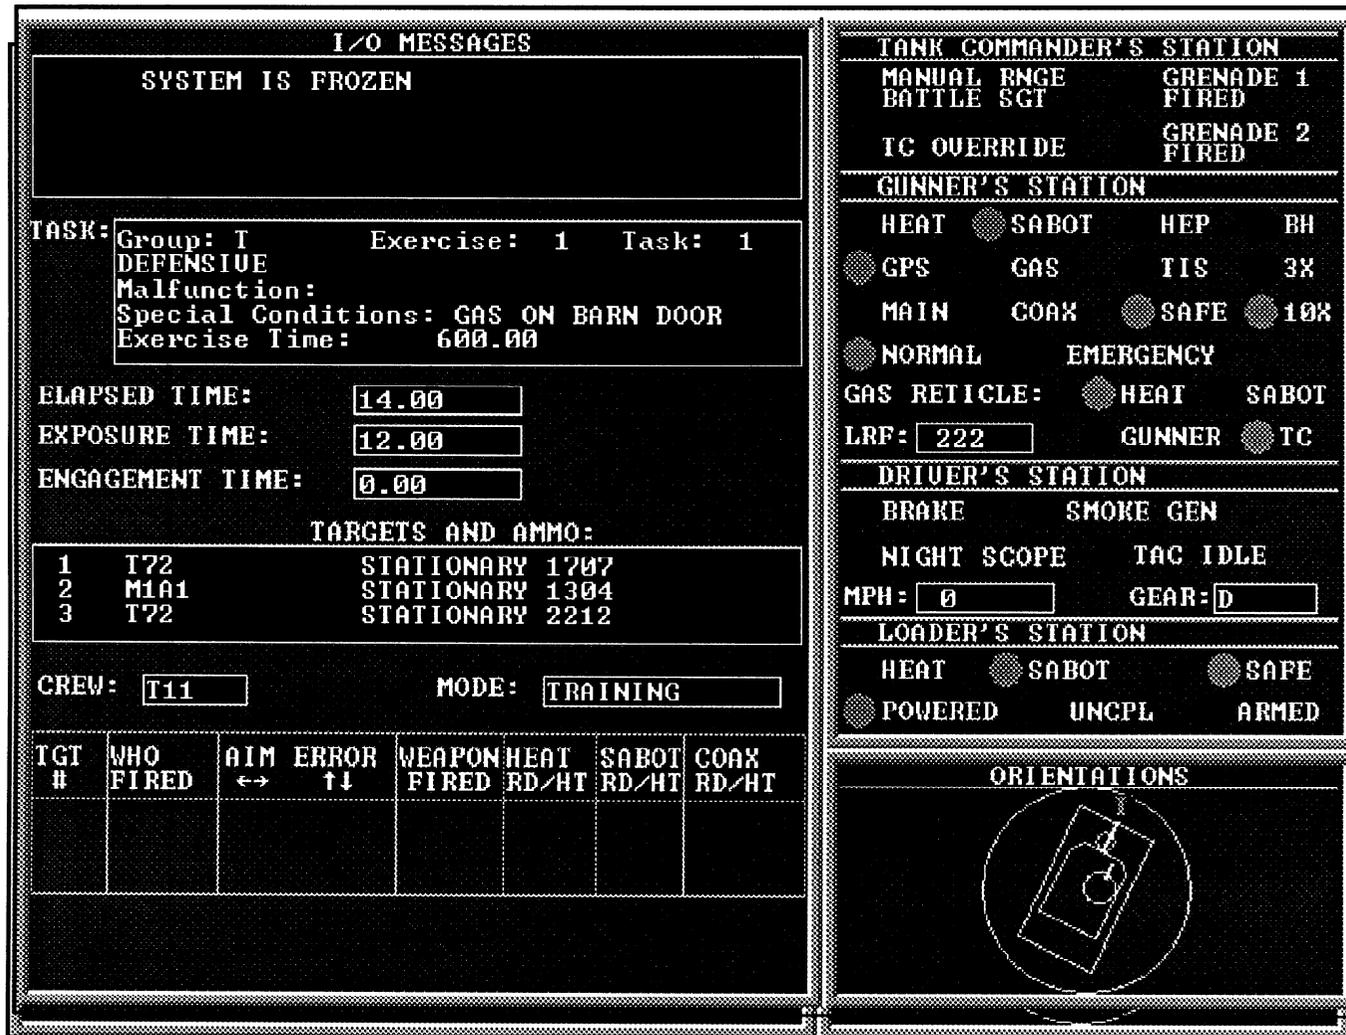

Figure 2-113. Real-Time Display Screen
2.6.8.5 Real-Time Display. During the simulation, the I/O receives information from the Real-Time Display screen, shown in Figure 2-113. This screen provides a current report on the following: